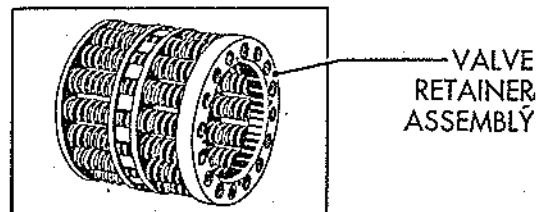

Figure 77
(5) Insert the valve and valve retainer assembly into the end of the spring assembly as shown in Fig. 77.